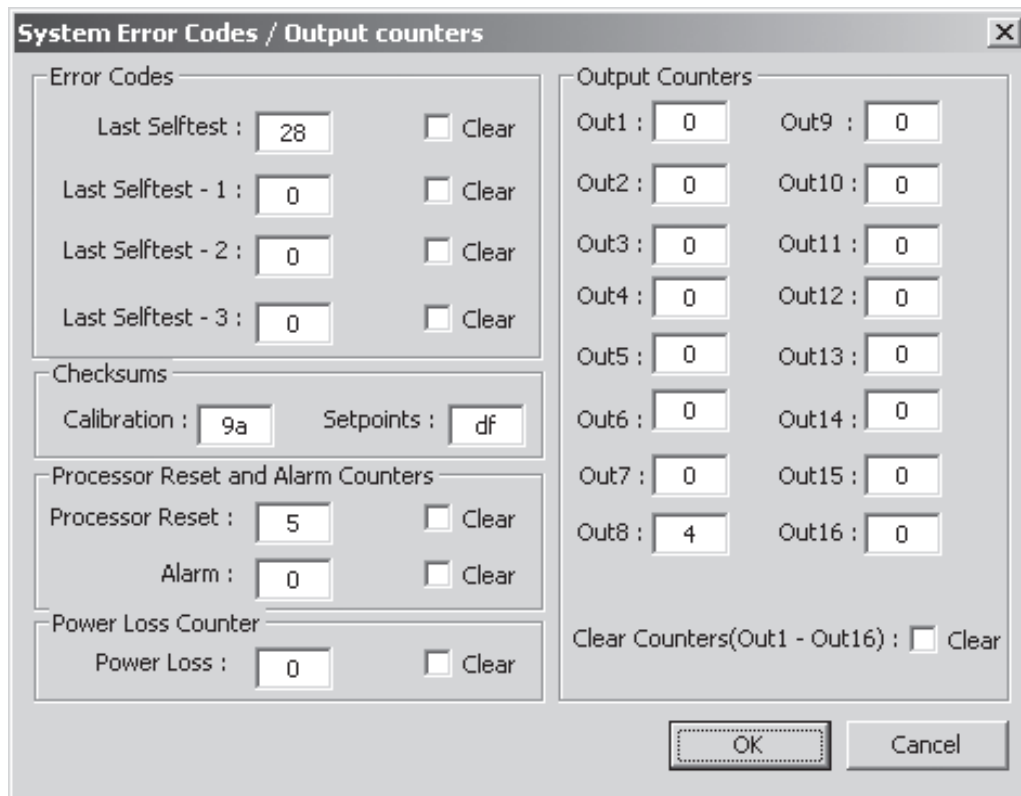

Figure 2-8 System Error Codes and Output Counters Dialog Screen
1. From the ISScom Main Screen menu bar select **Tools/System Error Codes/Counters**. ISScom will display the System Error Codes and Output Counters dialog screen (Figure 2-8).